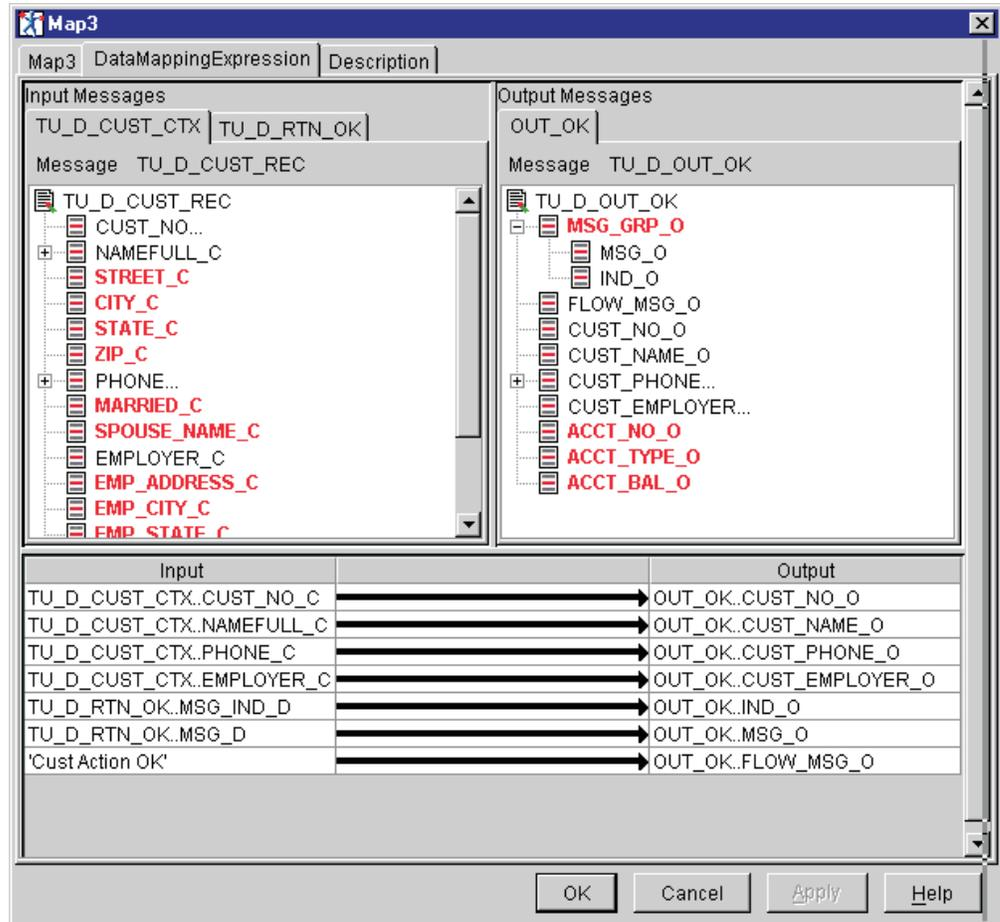

Figure 35. Mapping for Map3 node (TU\_D\_CUST\_CTX and TU\_D\_RTN\_OK messages to OUT\_OK message)
- 3) Perform the mapping for Map3 node as listed in Table 14 and Table 15 and shown in Figure 35 on page 53. This map passes customer data and good response messages to the DPL Good response Output Terminal (OUT\_OK). Click **OK** when the mappings are completed.